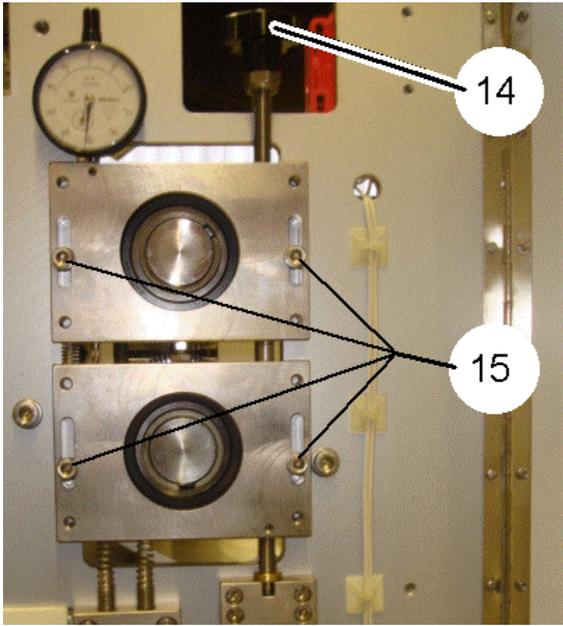

Figure 2
- * To check or adjust depth of cut, release the 4 bearing block screws (Figure 2, pointer 15) on each side of the machine. Now using a 0,5mm feeler, slowly rotate the cutter shaft whilst adjusting the lead screw (Figure 2, pointer 14) until the cutters just touch the 0,5mm feeler. Slacken the bezel clamp and set gauges to 0,5mm, re-tighten. Do the same operation on both ends of cutter shaft to ensure shafts and gauges are both set parallel and at same setting. Re-tighten 8 bearing block screws.
- * Depth of cut setting: After slackening the 8 bearing block screws (Figure 2, pointer 15) rotate the 2 lead screws (Figure 2, pointer 14) evenly until the correct depth of cut is seen on the gauges. Retighten bearing block screws. NOTE: The cutters move evenly about the centre line. Check tension of cutter drive belt. Tension if necessary, by releasing the screw, moving support and retightening screw. (NOTE: some variation in tensioner design may be seen, depending on model). Re-position end and top covers.
- * Right hand bearing block (not drive belt end). (Figure 2, pointer 15). Bend back locking tab and loosen the two castellated nuts holding the shaft to the bearing block. Tap nut with soft headed mallet to release bearing from shaft, if not released turn shaft 90 degrees and tap nut until taper is released. Only then, slacken the 4 bolts holding the (right) bearing block, but do not remove completely.